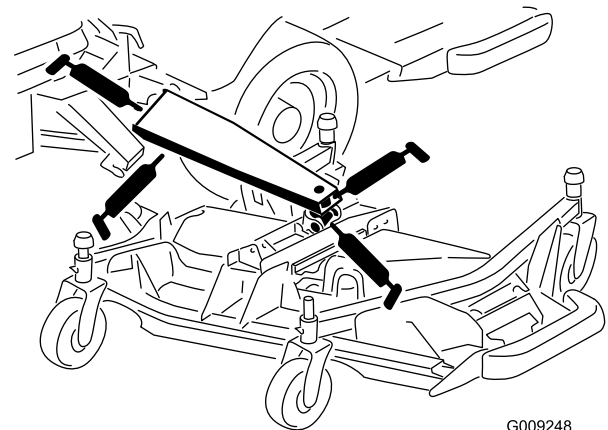

Figure 57
- 3 main lift arm bushings (Figure 57)
- 1 lift cylinder bushings (Figure 57)